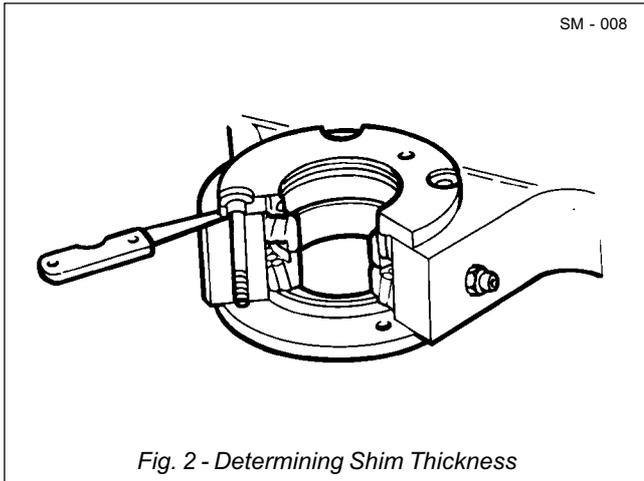

Fig. 2 - Determining Shim Thickness
**Note:** Bearing assemblies (30) and spacers are a matched set, never interchange cups, cones or spacers between sets.
5. Using Extreme Pressure Lithium Complex No. 2 grease (23), pack bearing assemblies (30), including end faces, and install bearings.
6. Place inner seal housings (33 & 35) temporarily in position and secure with bolts (47) and washers (45). Tighten bolts (47) to a torque of 16 Nm (12 lbf ft).
7. Using feeler gauges, as shown in Fig. 2, measure the dimension between the inner pivot faces and seal housings (33 & 35). Measure at 3 positions equally spaced around seal housings and determine average dimension, this is the size of shims (38) required.
8. Remove bolts (47), washers (45) and inner seal housings (33 & 35).
9. Install shims (38) as calculated at Step 7, reinstall inner seal housings (33 & 35) and secure with bolts (47) and washers (45). Tighten bolts (47) to a torque of 94 Nm (68 lbf ft).